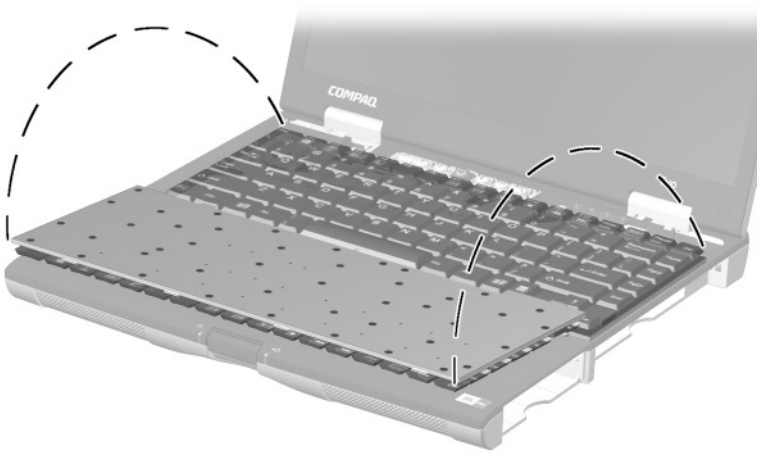

Figure 5-11. Releasing the Keyboard
3. Lift up the back edge of the keyboard and swing it up and forward until it rests on the top cover (Figure 5-11).